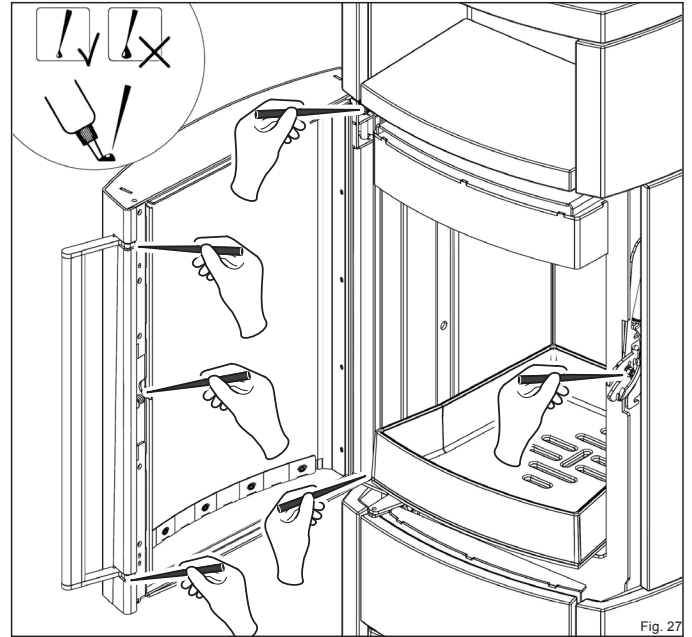

Fig. 27
- ▶ Lubricate the points with the speciality grease from the starter kit (Fig. 27).